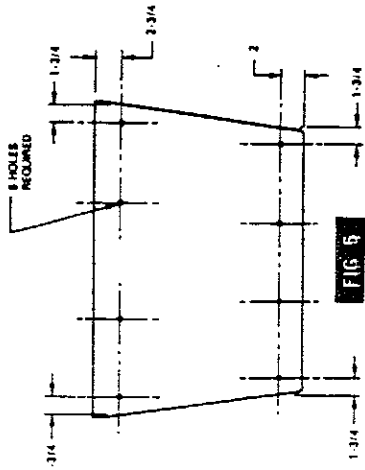

FIG. 5
3. Position the leg assembly on the bottom of the heater as shown in Fig. 5. Mark the hole locations using the leg assembly holes as locators. Using an electric drill and the drill bit (7/32" dia.) provided, drill (8) holes in the bottom of the cabinet in the locations shown in Fig. 5.
4. Mount the four legs (leg covers towards front of heater) using the (8) 1/4-20 self-threading screws provided, with an adjustable or 3/8" wrench.